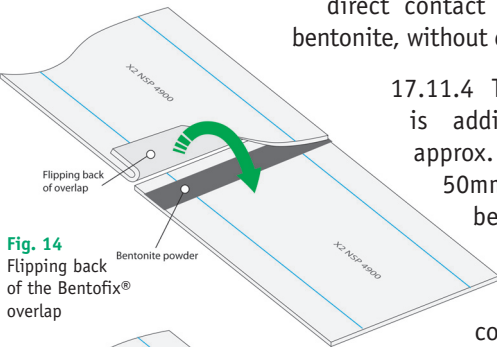

Fig. 14
17.11.3 The flipped back Bentofix® is then turned back (fig. 14), having a direct contact with the supplemental bentonite, without creating any fish mouths.